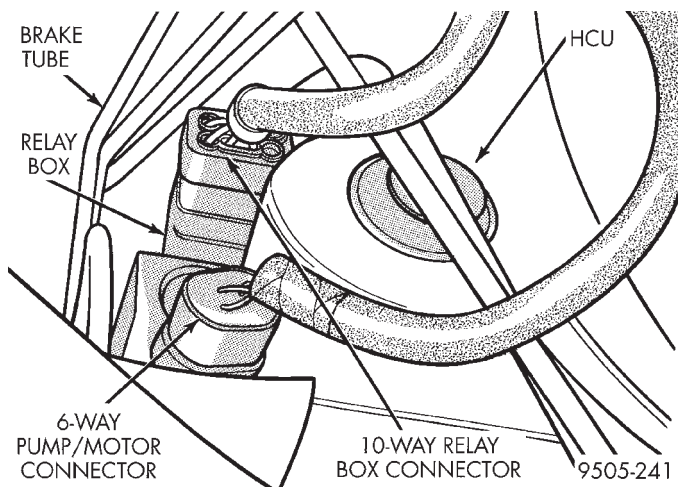

Fig. 18 Electrical Connections At HCU And Relay Box
(9) Disconnect the 6 way connector from the HCU wiring harness and the 10 way connector from the relay box located on the HCU (Fig. 18).
(7) Install the 6 way connector on the HCU wiring harness and the 10 way connector on the relay box of the HCU (Fig. 18).